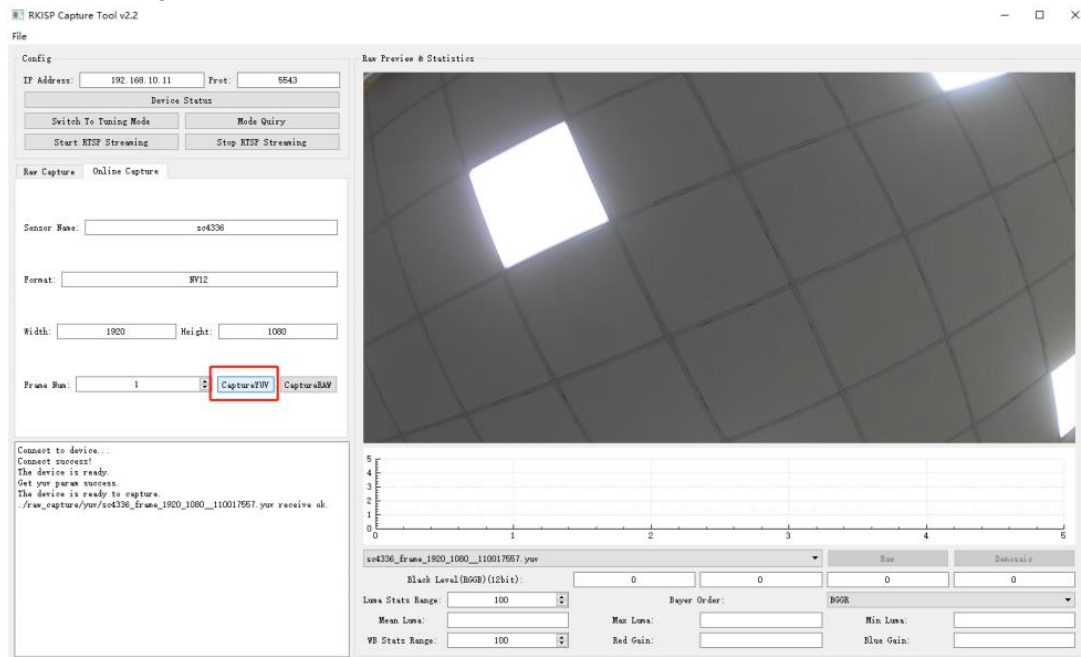

Figure 3-7-2-1
5. Click **Capture YUV**, the image can be previewed, the file will be stored in **raw\_capture/yuv/**, as shown in Figure 3-7-2-1: